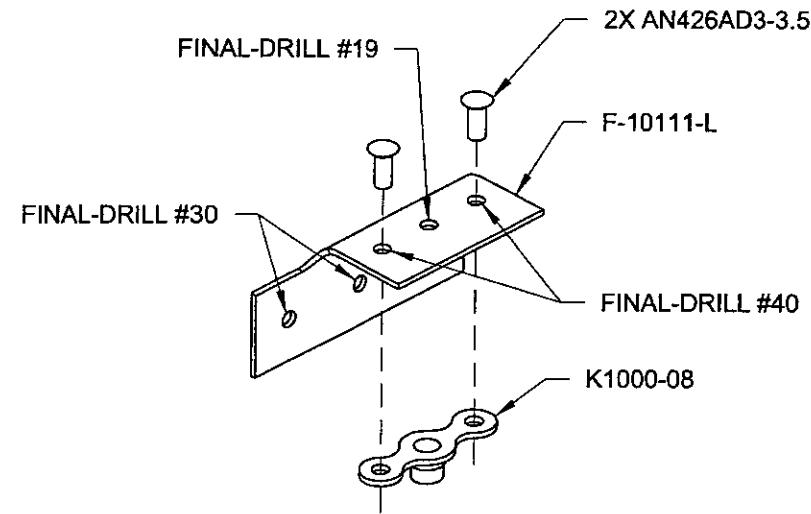

FIGURE 3: ATTACHING THE NUTPLATE
Step 3: Drill the F-10111-L Angle Bracket as shown in Figure 3. Deburr and dimple the mating parts for flush rivets. Prime as desired. Rivet the nutplate in place using the hardware shown.